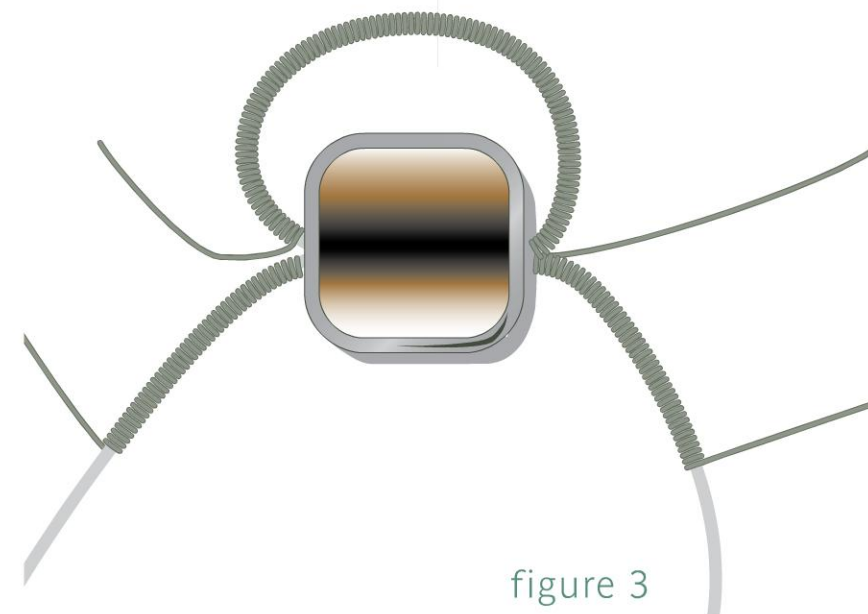

figure 3
- 9** Slide a  $\frac{3}{4}$ " (1.9 cm) piece of coil onto each 22-gauge wire end with the tail end last, pushing both coils against the frame (Figure 3).